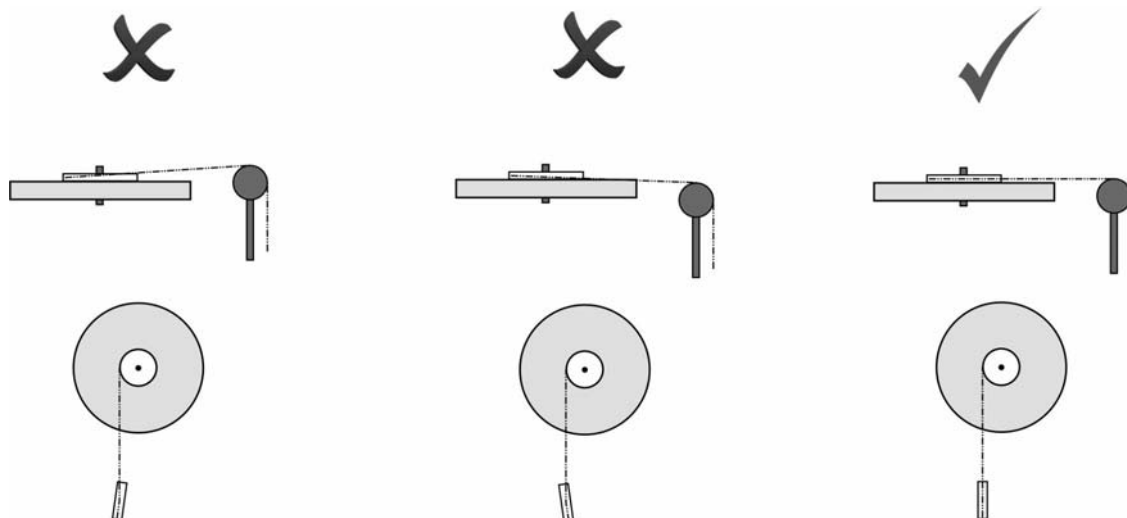

Fig. 5 Adjusting the height, top 3 figures, and direction, bottom 3 figures, of the pulley on the rod for optimal conditions.
5. Drape the thread over the black pulley and raise or lower the pulley in the clamp so that the thread runs parallel to the top surface of the disc. Change the angle of the black pulley so that it is parallel to the thread and not at an angle to it - see **figure 5**.